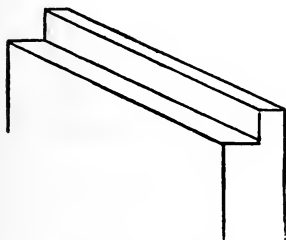

Fig. 107.—Rabbet.
*Rabbeting*, like much other work in cabinet-making, is simple enough when one knows how, but unless he were shown, the novice would no doubt find a difficulty in using the rabbet plane. The rabbet, or rebate, is simply a hollow or recess, square cornered, run along the edge of any piece of wood, as Fig. 107. To make it, mark its limits with the cutting-gauge, cutting as deep as convenient; then with a chisel cut away a little